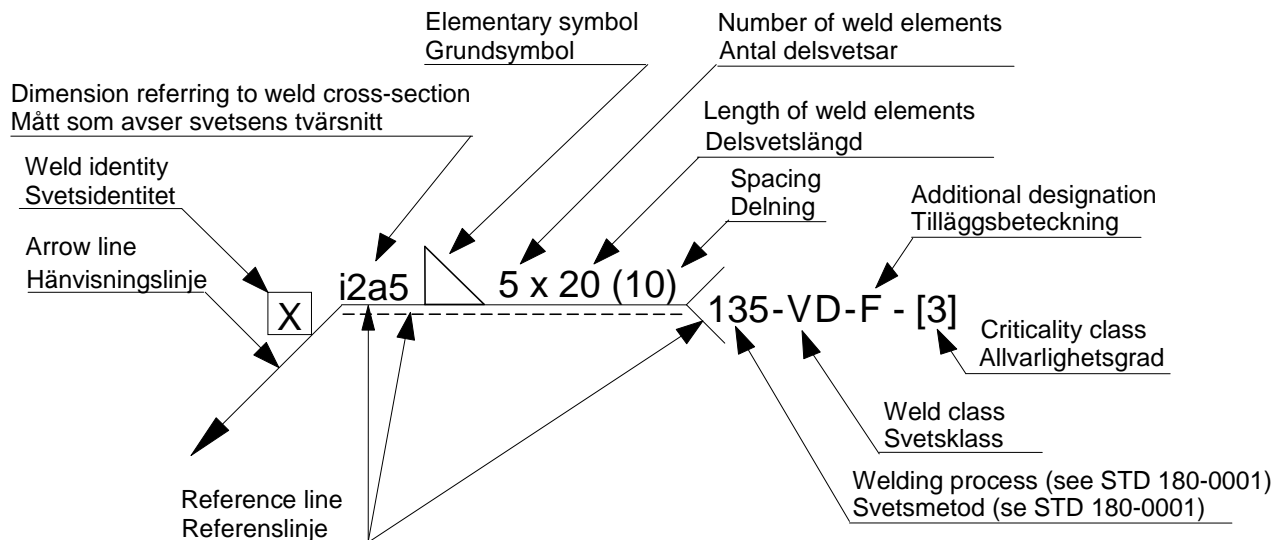

Fig. 1 Symbolic representation of weld / Svetsbeteckning
- figures 1, 2 and 3 have been edited
The structure of the symbolic representation of welds is described in STD 180-0001. Figure 1 gives an example of a symbolic representation of a fusion weld.